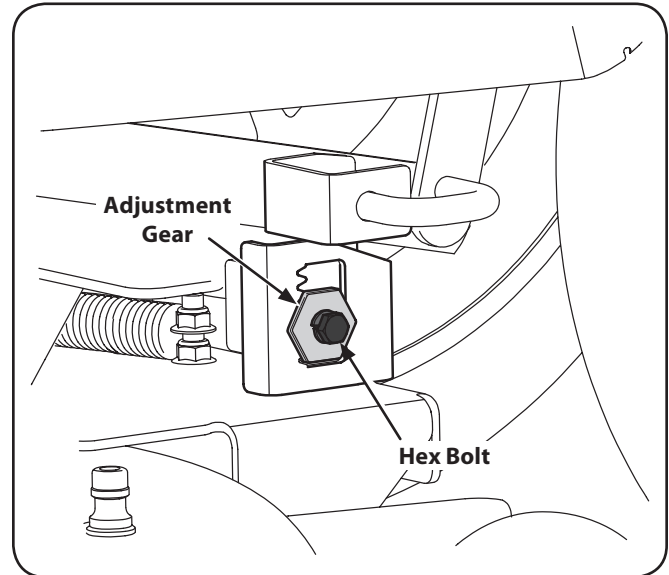

Figure 6-8
3. Loosen, but do NOT remove, the hex bolt on the left deck hanger bracket. See Figure 6-8.
4. Using a wrench, raise or lower the left side of the deck by turning the adjustment gear. See Figure 6-8.